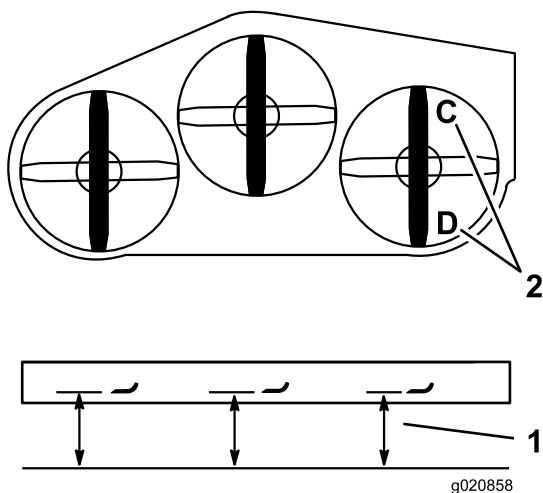

Figure 83
1. Position the right blade front-to-rear (Figure 83).
2. Measure the right blade at the **C** location, from a level surface to the cutting edge of the blade tip and record this measurement (Figure 83).
3. Measure the right blade at the **D** location, from a level surface to the cutting edge of the blade tip and record this measurement (Figure 83).
4. The mower blade should be a 6 to 10 mm (1/4 to 3/8 inch) lower at position **C** than at position **D** (Figure 83). If it is not correct, proceed to the following steps.